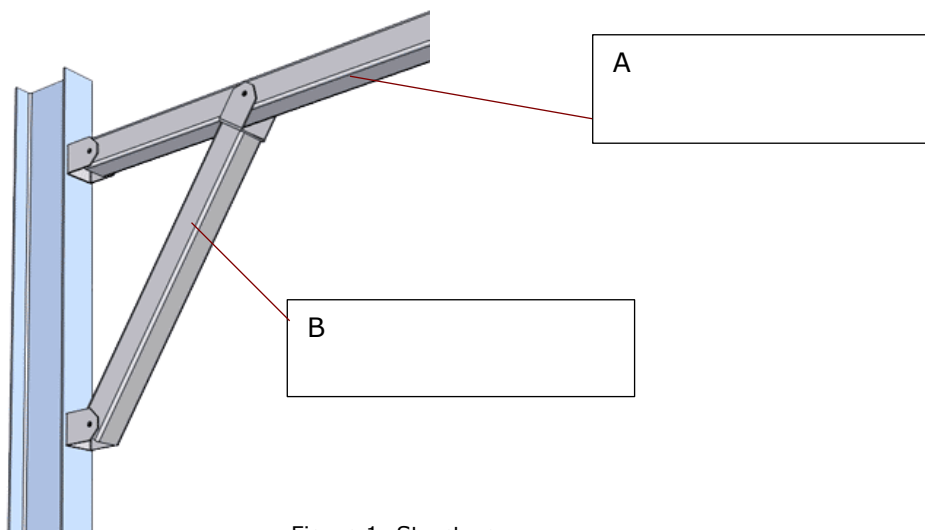

Figure 1: Structure
b. Label parts A and B in the structure shown in Figure 1.
c. Describe the function of the parts labelled A and B in Figure 1 in Question 2b.